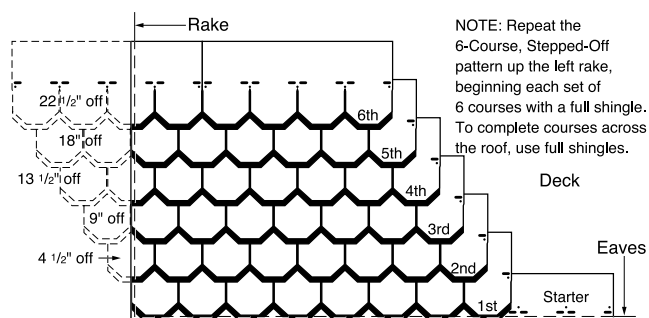

Figure 19-15: Four-and One-Half Off, Six Up (Carriage House).
2. Locate fasteners in starter strip about 1½" up from the bottom edge, so they are centered under the first-course tabs. Continue with full 10" by 36" lengths along the eaves (Figure 19-15).
**1ST COURSE:** Apply a full shingle at the lower left corner of the roof, tabs flush with starter course (Figure 19-15).